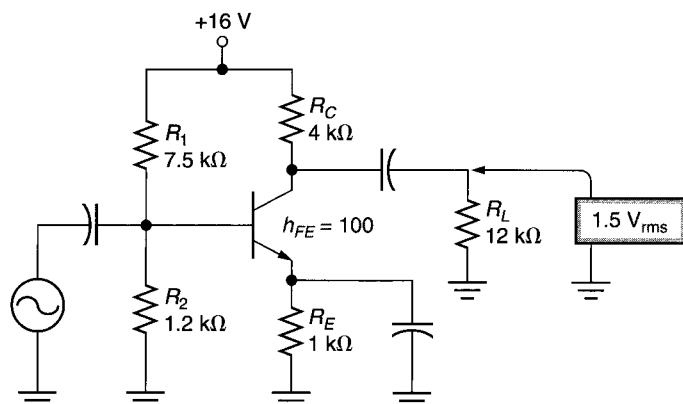

FIGURE 11.46
1. Calculate the compliance of the amplifier in Figure 11.46.
5. Calculate the value of  $P_S$  for the amplifier in Figure 11.46.
7. Calculate the value of  $P_L$  for the amplifier in Figure 11.46.
9. Calculate the maximum possible load power for the circuit shown in Figure 11.46.
11. Assuming that the amplifier in Figure 11.46 is driven to compliance, calculate the efficiency of the circuit.